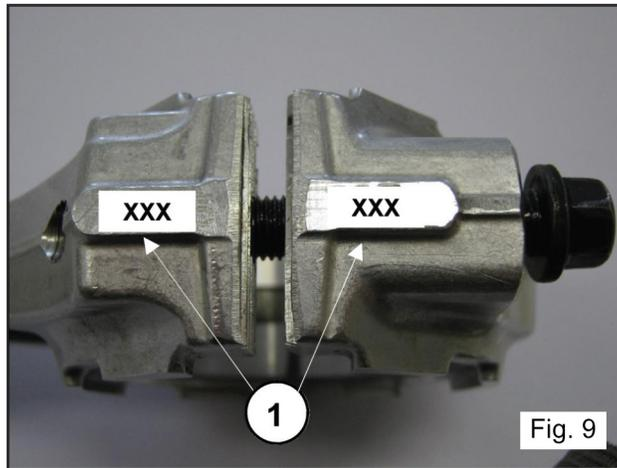

Fig. 9
- Couple the con-rod caps to their shanks, referring to the numbering (fig. 9, pos. 1).